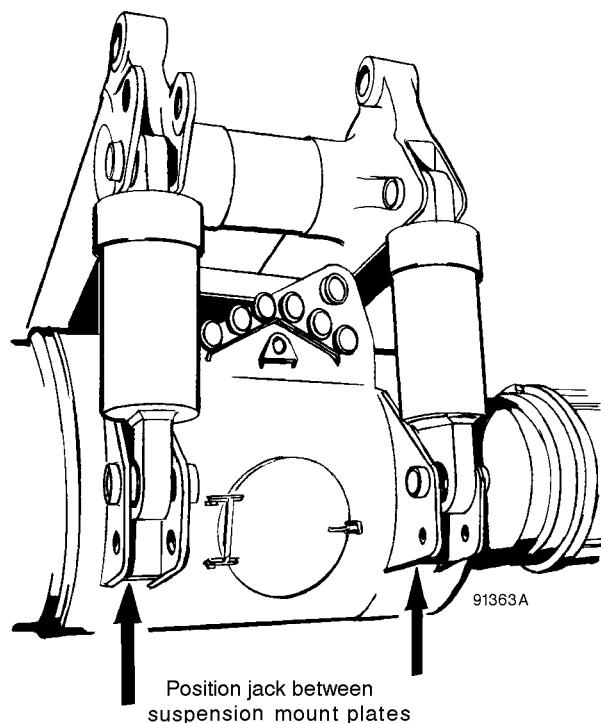

FIGURE 2-3. TIRE LIFTING SLING
1. Park truck on level ground and block front wheels. Position a jack in recess of rear suspension mount casting as shown in Figure 2-3.